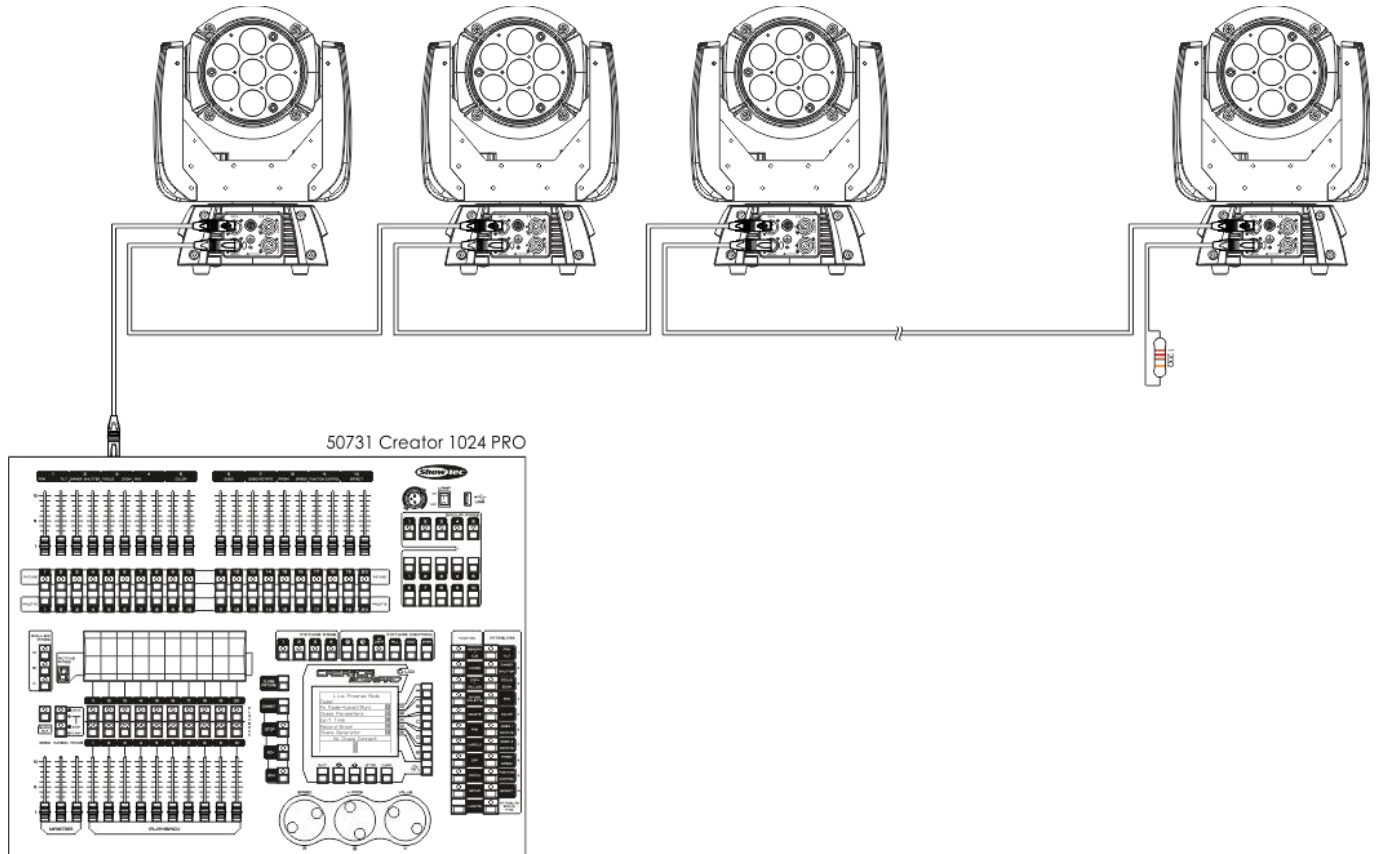

Fig. 04
- 05) Link the units as shown in fig. 04. Connect a DMX signal cable from the first unit's DMX "out" socket to the second unit's "in" socket. Repeat this process to link the second, third, and fourth units.